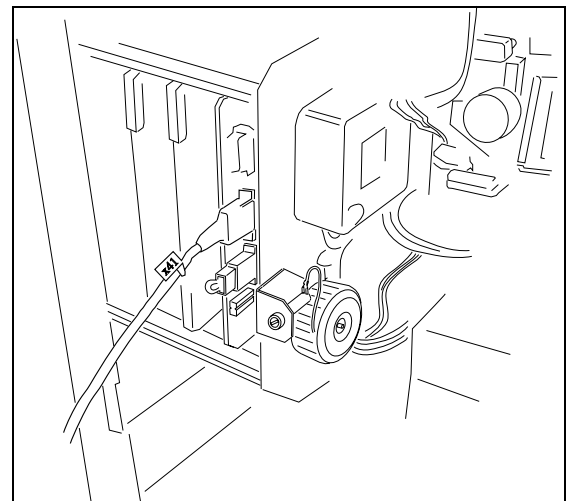

Figure 12.
- Connect the connector to X41 on the D706 p.c. board, see Figure 12.